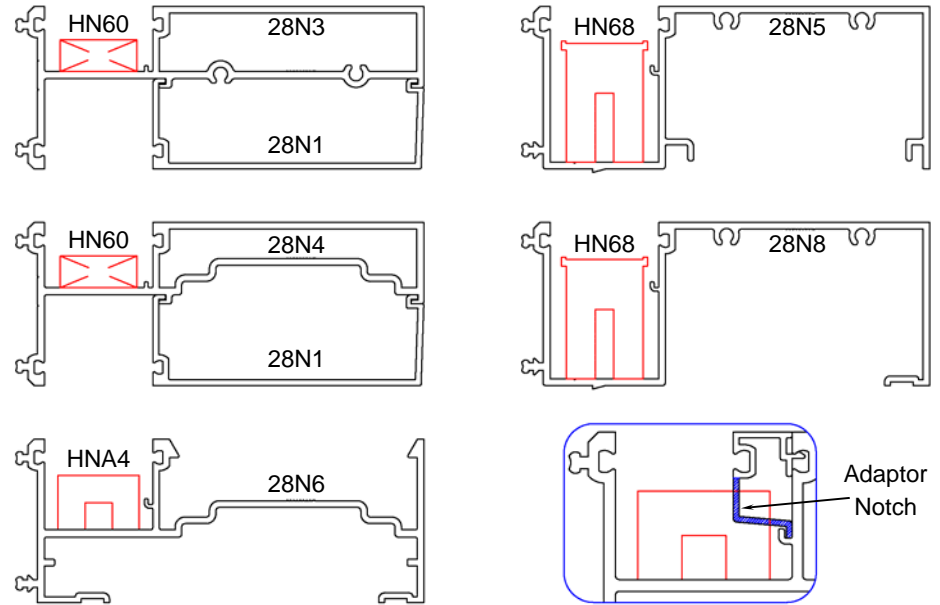

Figure 27
- Figure 27 shows setting blocks for 1” glazing.
- For sill profiles, 28N5, 28N8, and 28N6 when 1/4” or 1/2” glazing adaptors are required, field notch the glazing adaptor at the setting block locations. See figure 27 for notching needed.
- See figure 27 to identify the setting block required for your condition.